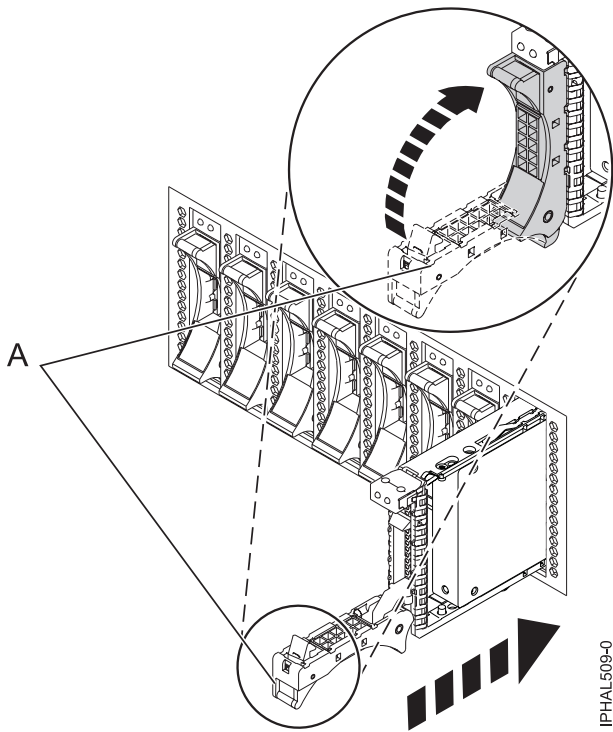

Figure 25. Replacing a disk drive in the system
7. When the identify LED flashes, slide the disk drive or solid-state drive all the way into the system or an expansion unit, and push the drive handle (A) in until it locks, as shown in Figure 25.